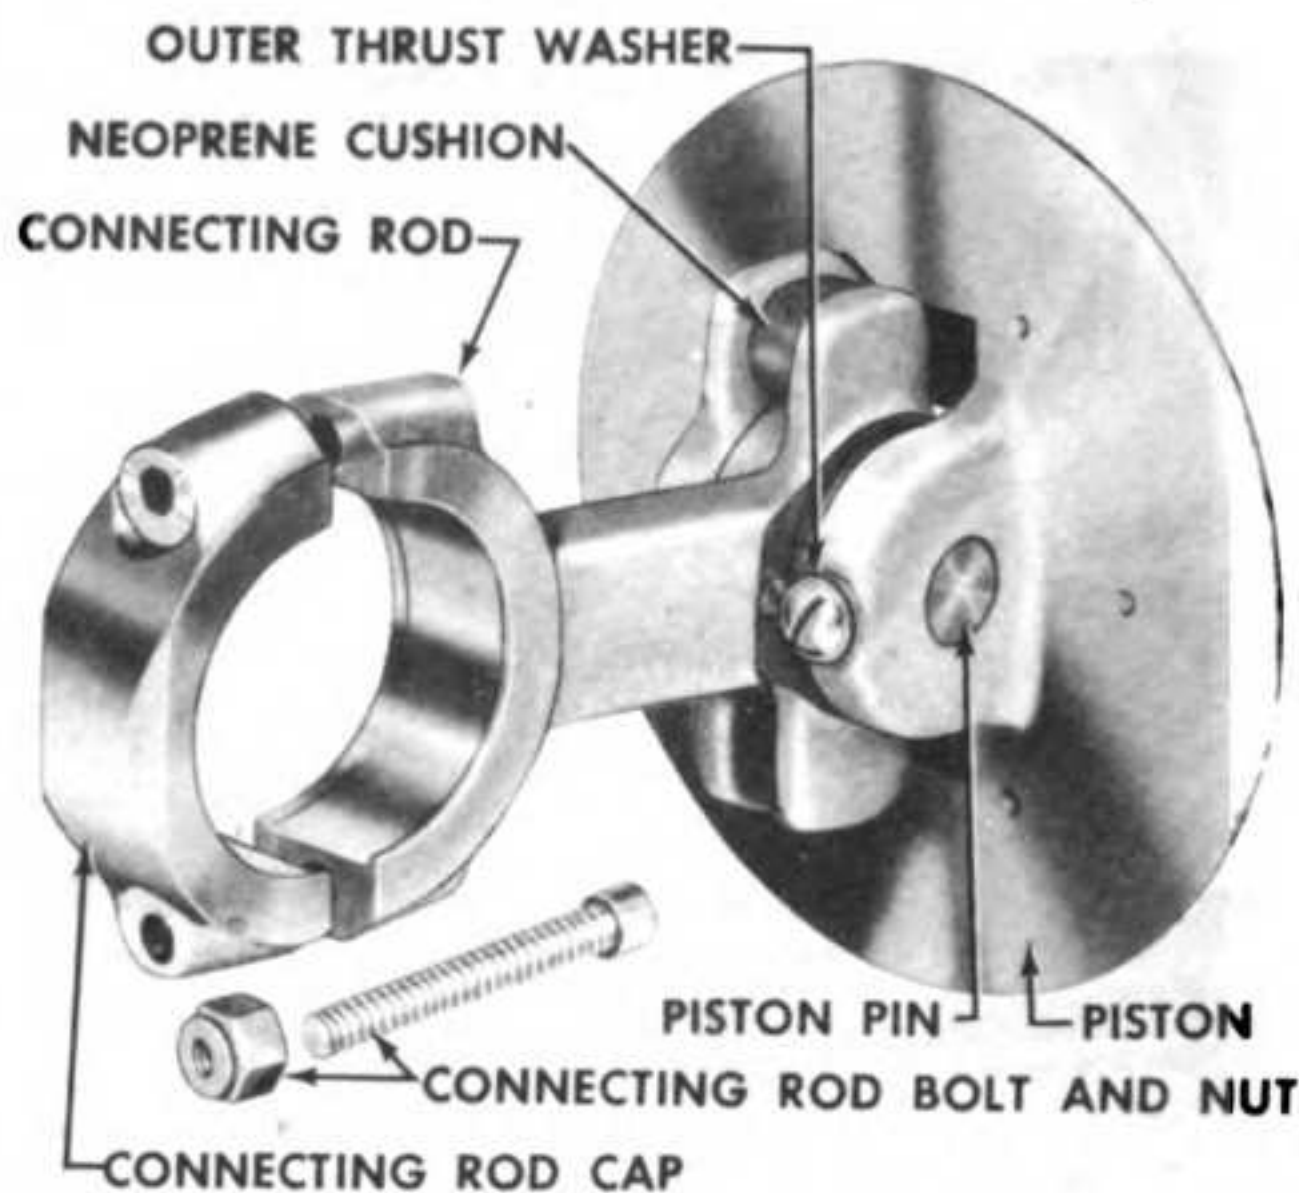
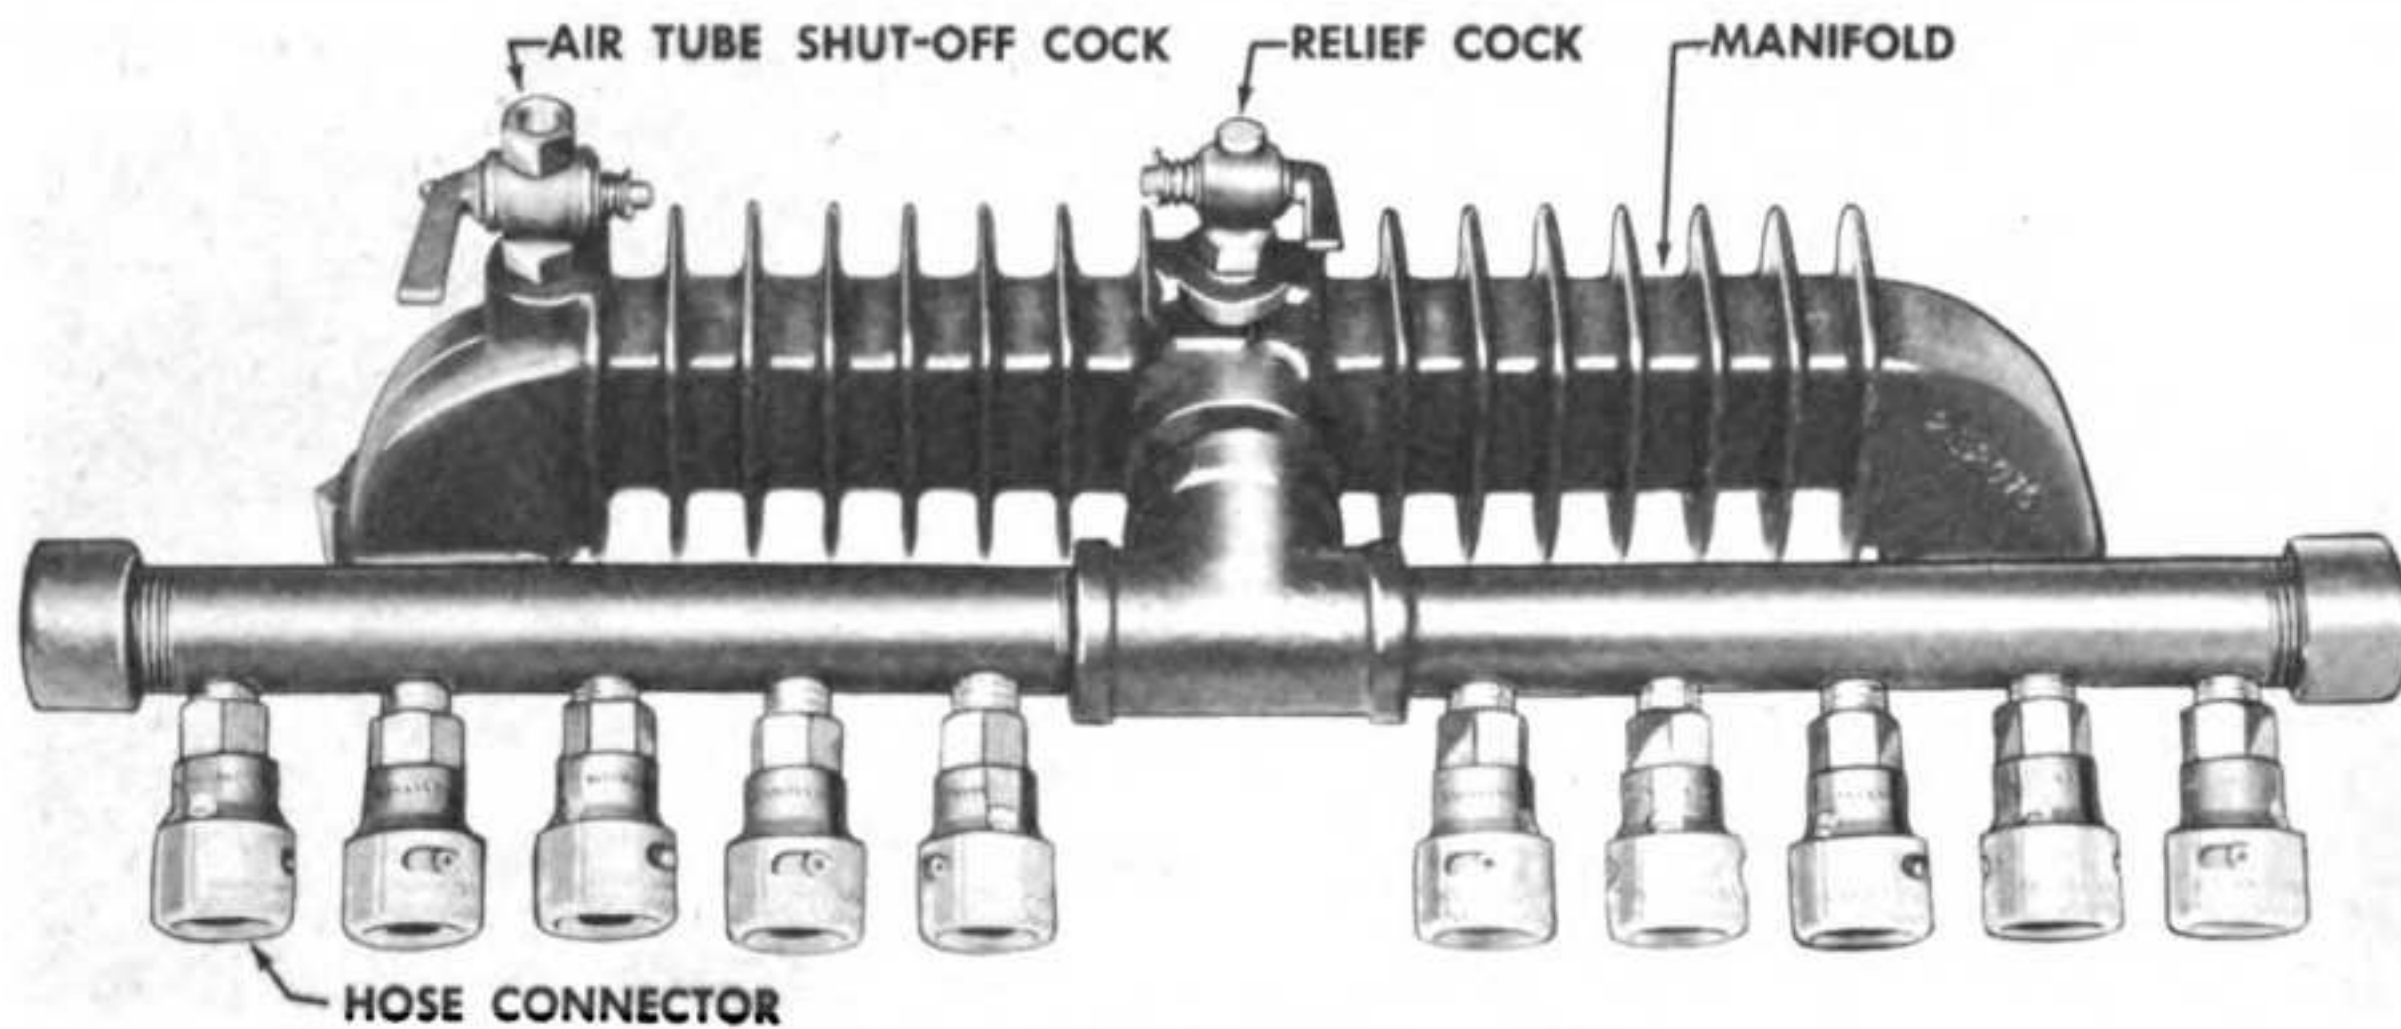

Figure 56—Compressor Piston and Connecting Rod, Assembled
Figure 59—Manifold Assembly
(2) Remove the setscrews securing the piston pin; drive out the piston pin and remove the inner thrust washer and the thrust bearing. (See figures 56 and 58.)
(3) Remove the screw and lockwasher, or the cap-screw and locking plate, securing the outer thrust washer to the piston; remove the outer thrust washer.
(4) Press the needle bearing from the connecting rod.
b. Disassemble the manifold assembly. (See figure 59.)
(1) Unscrew the air tube shut-off valve and the relief cock from the manifold.
(2) Unscrew the hose connectors from the manifold pipes.
(3) If connectors require service, unscrew the brass hexagon washer holder and install a new rubber washer. **CAUTION:** The deflator is loose under the washer; take care not to lose this part.
(1) Assemble the hose connectors, making sure the van end of the deflator points into the hose connector.
(2) Screw hose connectors into manifold pipes.
(3) Install the air tube shut-off valve and the relief cock. (See figure 59.)